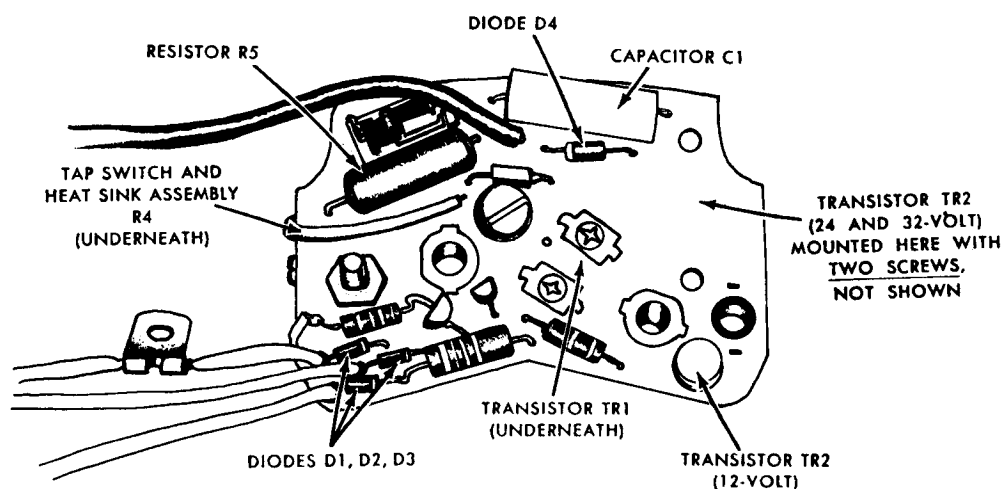

Figure 12—Panel Board Assembly
REGULATOR REPLACEMENT OR REPAIR (Figure 12 only)
- The panel board is shown without the sealing compound so the seven (7) serviceable parts can be easily identified (Figure 12).
should face towards diodes D1, D2 and D3 (Figure 12)